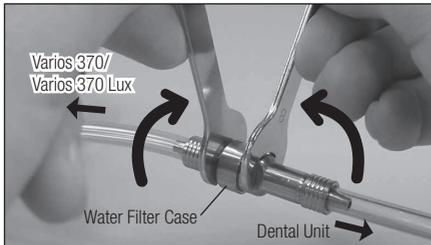

Fig. 22
- 2) Mount two Spanner Wrenches (5x8) and turn those as shown in Fig. 22.